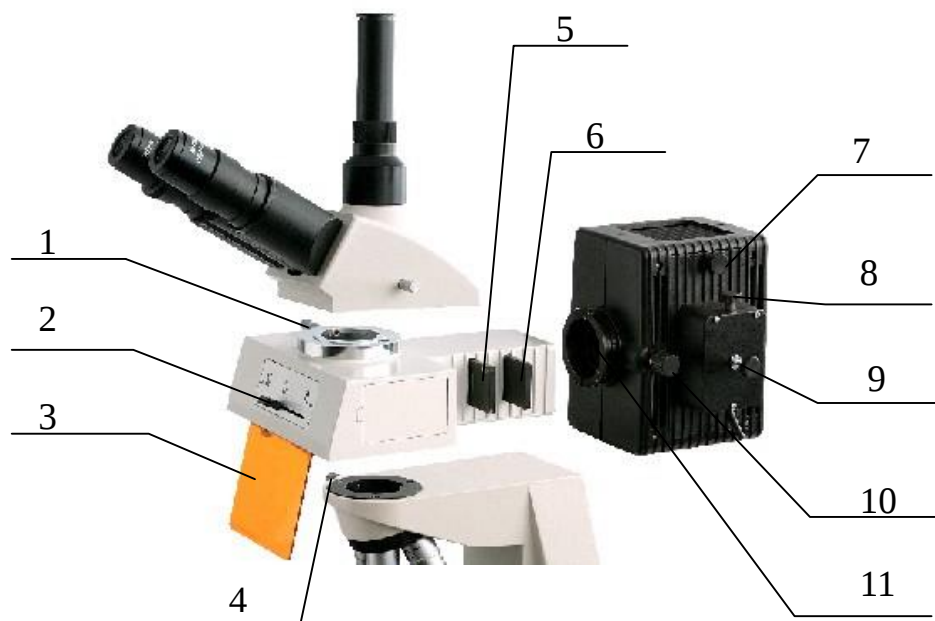

Fig.2
in place ,tighten the fixing screw with finger. (Fig.2)
(4) Take out the orange UV protector from the plastic bag, loose the screws located under the main body, insert the UV protector, then fasten the fixing screw anew.(Fig.2)
(5) Please turn anticlockwise the ring at the rearward of the main body to anchor point, then aim the groove under the lamp housing connector to the inferior fixing pin of the connector of main body, in the meantime, hold the lamp housing by hand, fastening the both parts by rotating the ring to anchor point clockwise.
(6) Put the binocular head or the trinocular head into the adapter of the main body in place, tighten the knurled screw with finger.
(7) Familiarize yourself the mechanical parts of your microscope. Gently operate each part by hand to see how it behaves and what result it produces.
(8) Insert the plug in to the socket in back of microscope .Insert another end of the power wire to the supply socket.
(1) Shift the fluorescent wave band shifting handle into the “N” position . (Fig.2)
- (2) Push the light shield into the light path at the rearward of main body.
- (3) Turn on the power switch, adjust the brightness knob to make the brightness 70% of the full load.
- (4) Place the specimen (slide) to be viewed smoothly onto the stage, cover slip to face to the objective. Clamp specimen (slide) carefully with the movable spring clip.
- (5) The magnitude of incident beam of light can be changed when adjusting the aperture diaphragm. The highest resolution of the objectives can reach when the fitted aperture diaphragm is adjusted. When the objectives is changed, in order to get the best resolution of the objective, please take off the eyepiece to observe the size of aperture diaphragm in the eyepiece tube. It is better to adjust aperture diaphragm till it is a little smaller than the aperture of the objective.